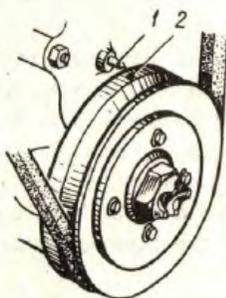
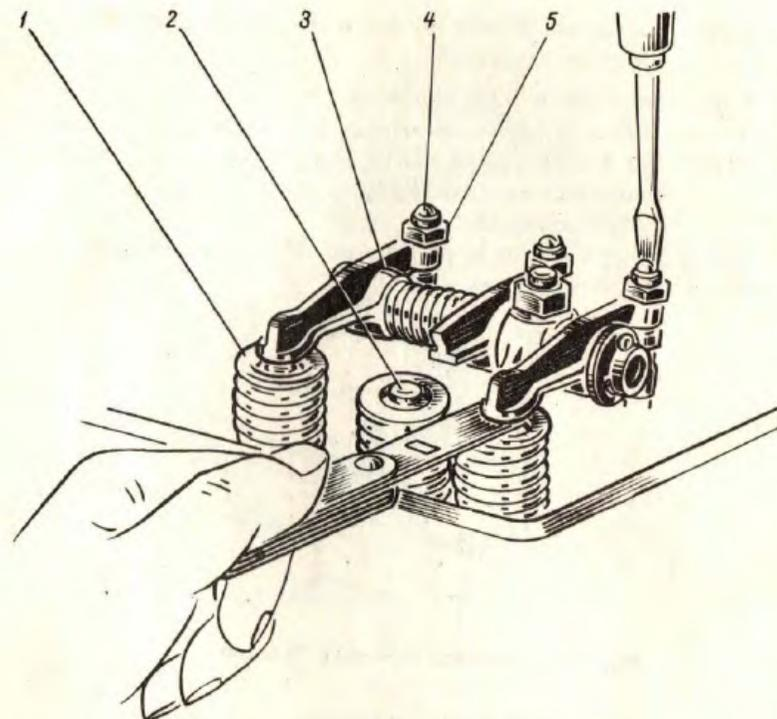

Fig. 14. Finding TDC Position;
Fig. 15. Adjusting Valve Clearance:
- Position the No.1 cylinder on top centre of the compression stroke as indicated by the timing mark on the crankshaft pulley (Fig.14). Using a feeler gauge, check the clearance between the rockers and valves on No.1 cylinder. If the clearance is wrong, loosen the adjusting screw locknut and, using the feeler (Fig.15), turn the adjusting screw with a screwdriver to the required position. Thereafter, holding back the adjusting screw with the screwdriver, draw up the locknut and recheck the clearance.